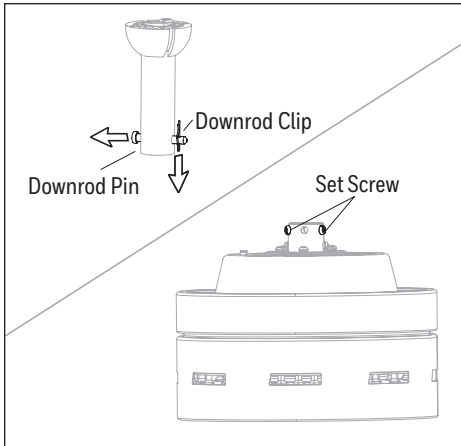

Figure 3.1
1. Remove the downrod clip and downrod pin from the downrod. Then partially loosen the set screws in the yoke at the top of the motor assembly (Figure 3.1).